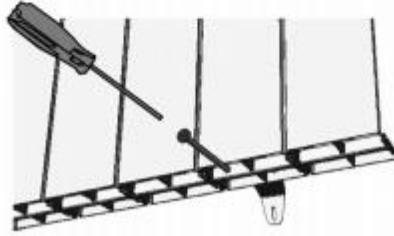

Fig. 11
8. Insert the two dowels and secure them using the two screws (B) to completely secure the appliance to the wall. (Figure 11).